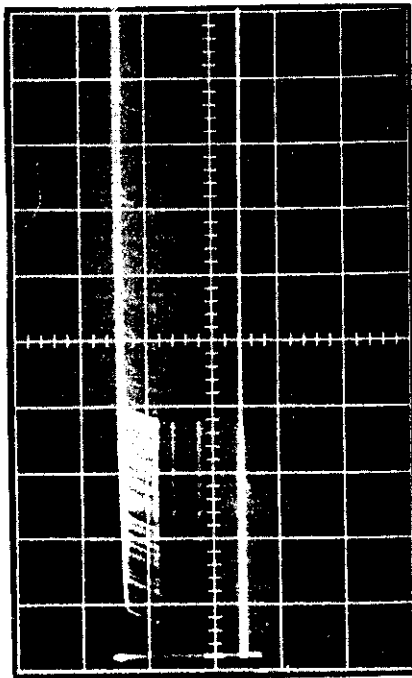

FIGURE 4-1a. DISC control fully counterclockwise. (AMP DISC TEST POINT.)
2. Connect the oscilloscope probe (A input) to the test point labelled AMP DISC. Observe a negative pulse of 3 to 4 volts. (See Figure 4-1a.)